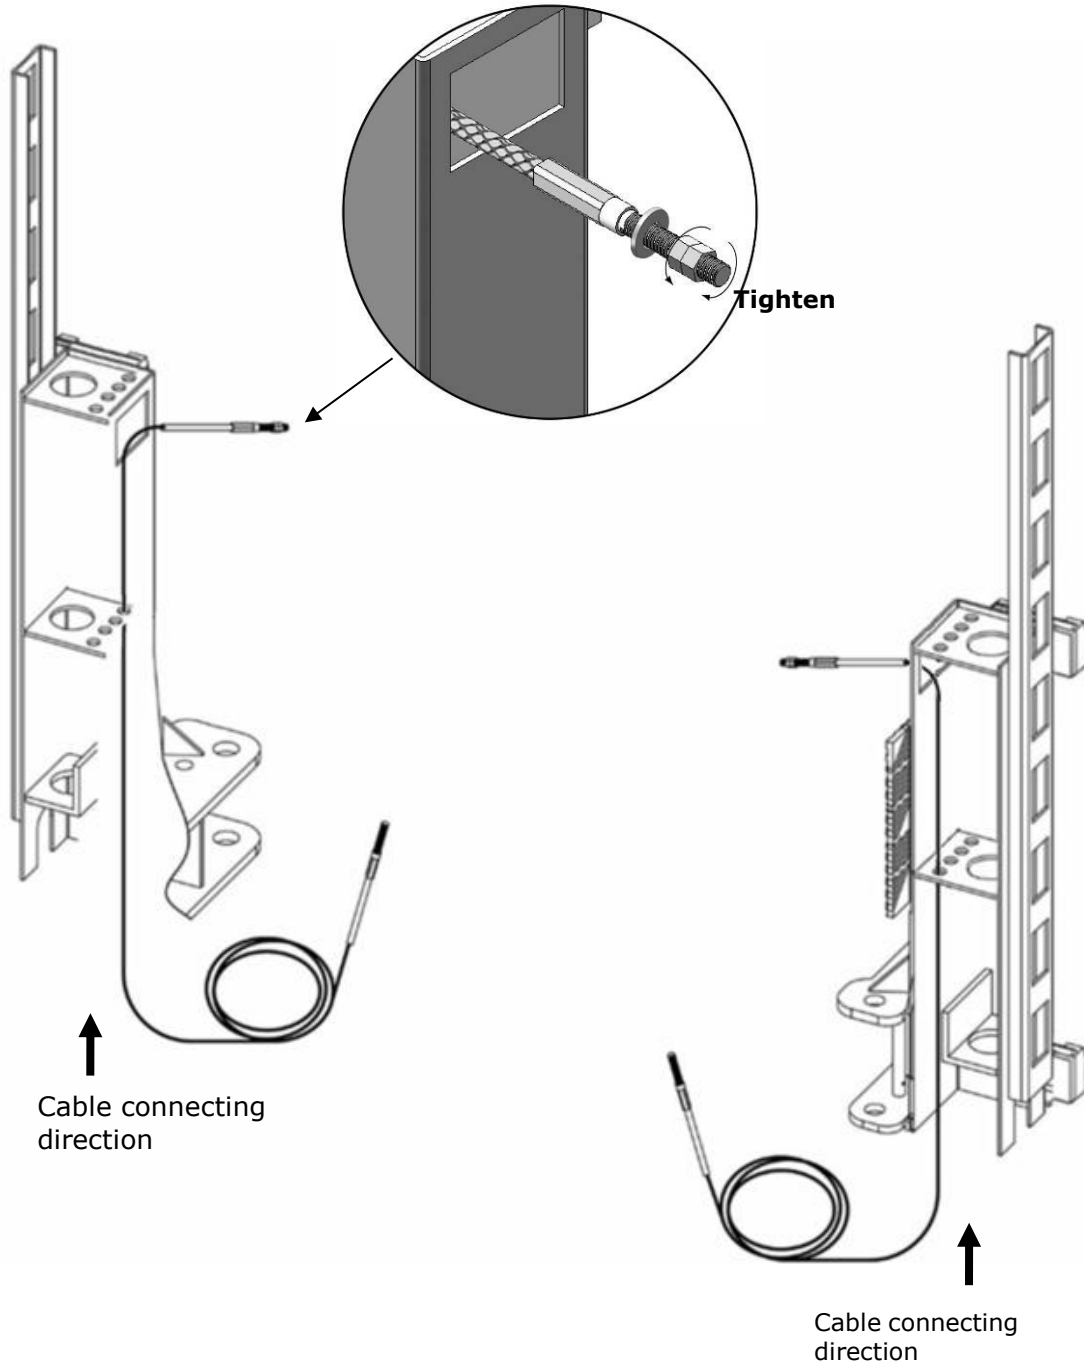

Fig. 27
- 1.1 Take out the carriages plastic cover, cable pass through from the bottom of the carriages and be pulled out from the open of carriages, then screw the two cable nuts (See Fig. 27).